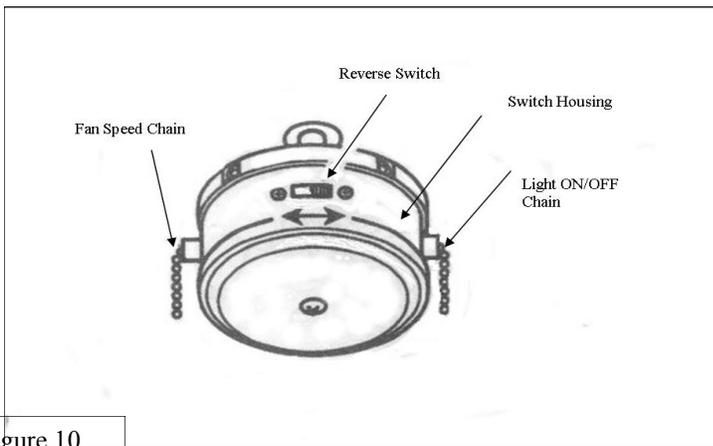

Figure 10
- Attach the decorative pull chain to the switch housing and adjust the reverse switch to select. (figure 10)